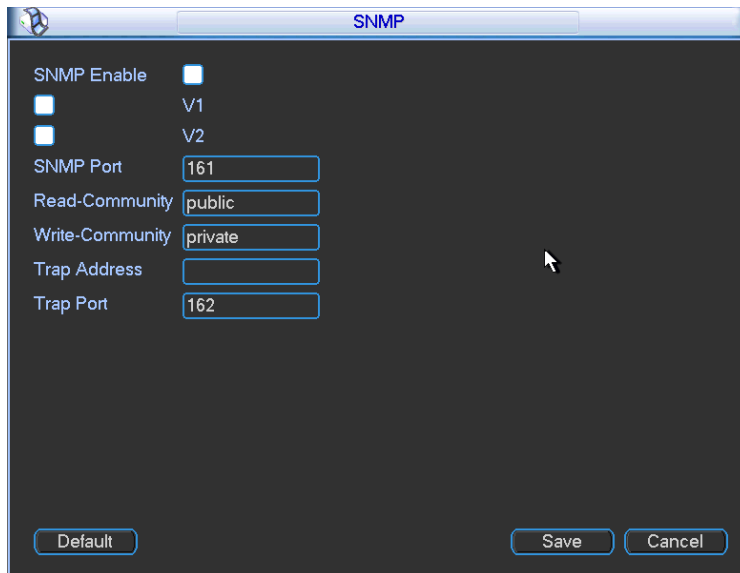

Figure 5-36
You can set in the following interface. See Figure 5-36.
- In Figure 5-36, check the box to enable the SNMP function. Input the IP address of the PC than is running the software in the Trap address. You can use default setup for the rest items.